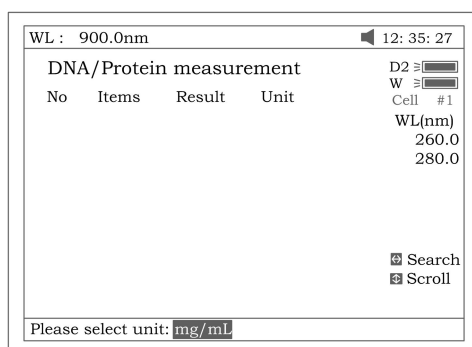

Fig 64
3. Press **【F3】** to select the unit of concentration (Fig 64).